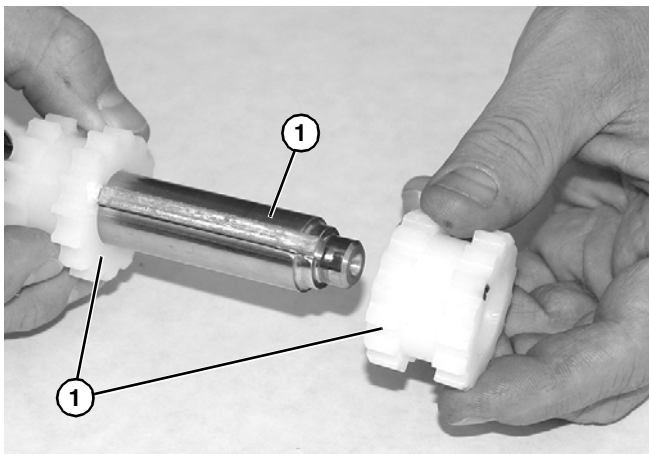

Figure 52
1. Install required quantity of sprockets (**Figure 52, item 1**) onto drive pulley (**Figure 52, item 2**).